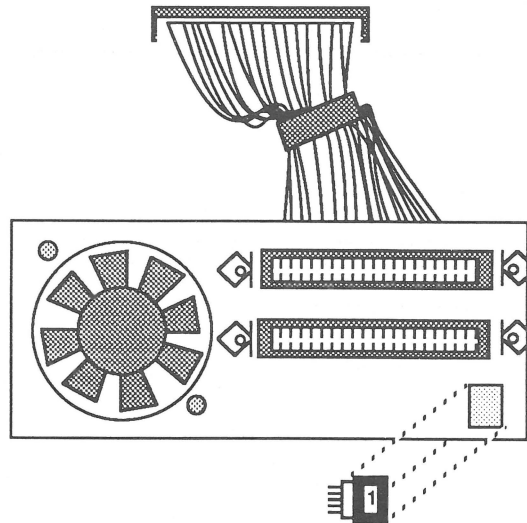

FIGURE 24
1. Replace the switch on the fan frame. To do this, first insert the switch from outside to inside through the opening in the metal frame. Make sure the switch connector is aligned as shown in Figure 24. Then push up on the switch until it snaps securely into place on the frame.